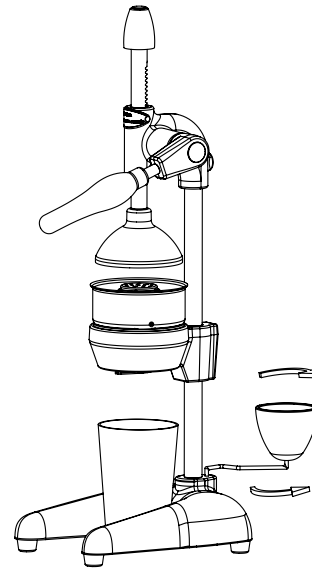

Figure 5
Place the glass that will be filled with the juice, under the Bowl, (Figure 5).
Caution: The Drip Cup (30) is designed to collect the juice that is leaking from under the bowl after the squeezing. Please put the Drip Cup (30) under the Bowl after squeezing process. (Figure 5)